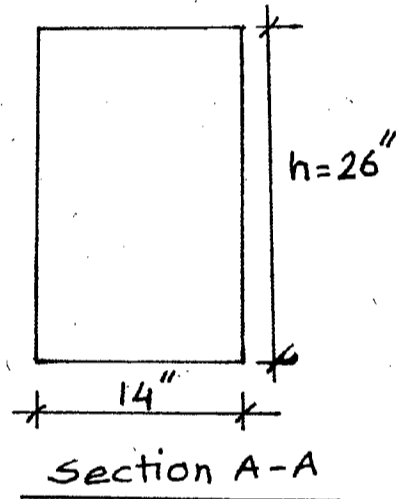

Fig. 2
3. (a) Why is concrete cover over rebar important? What are the recommended values of 'cover' as per ACI code? (6)
- (b) A rectangular beam carries a service live load (unfactored) of 2.0 kip/ft and an unfactored superimposed dead load of 1.5 kip/ft (in addition to self weight of beam) on a 22 ft simple span as shown in Fig. 2. The beam will have a cross-section of 14"  $\times$  26" for architectural reasons. (16)